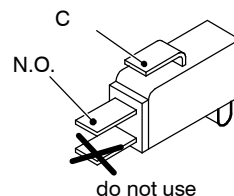

Fig. 50
- 2 Measure the electrical resistance between the tabs marked C. and N.O. (Fig. 50). The contact must be normally open.
- 4 Re-assemble the parts in reverse order of removal. Refer to Fig. 50 for the correct wiring connectors on the switch